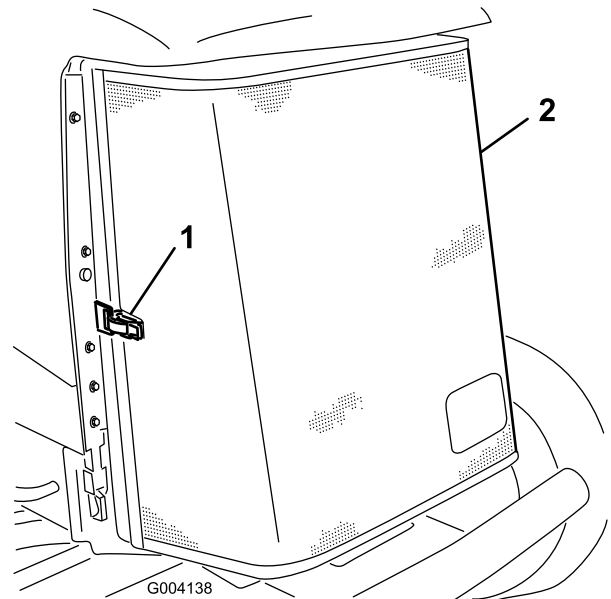

Figure 72
3. Unlatch the clamp and pivot open the rear screen (Figure 72).